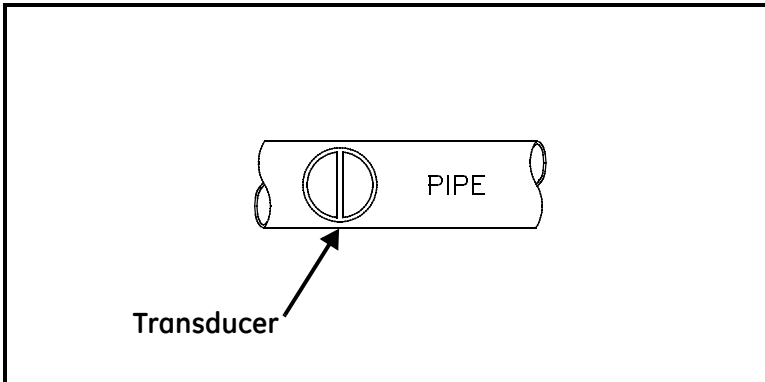

Figure D-1: Proper Alignment of Transducers for Cylindrical Surfaces
B. Transducer Positioning/Alignment - For proper sound coupling the transducer must be pressed firmly against the test surface. On small diameter cylindrical surfaces such as pipes, hold the transducer so that the sound barrier material visible on the probe face is aligned perpendicular to the center axis of the pipe. See Figure D-1 below.